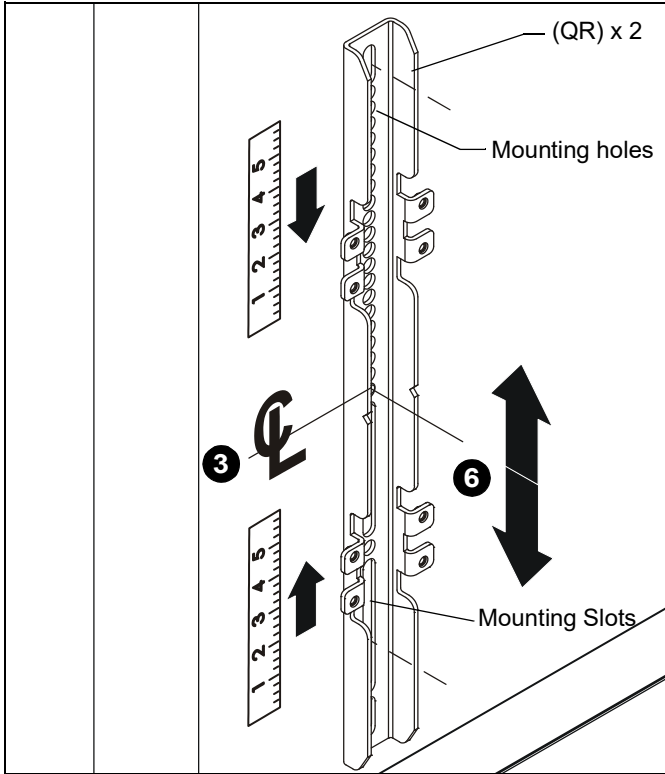
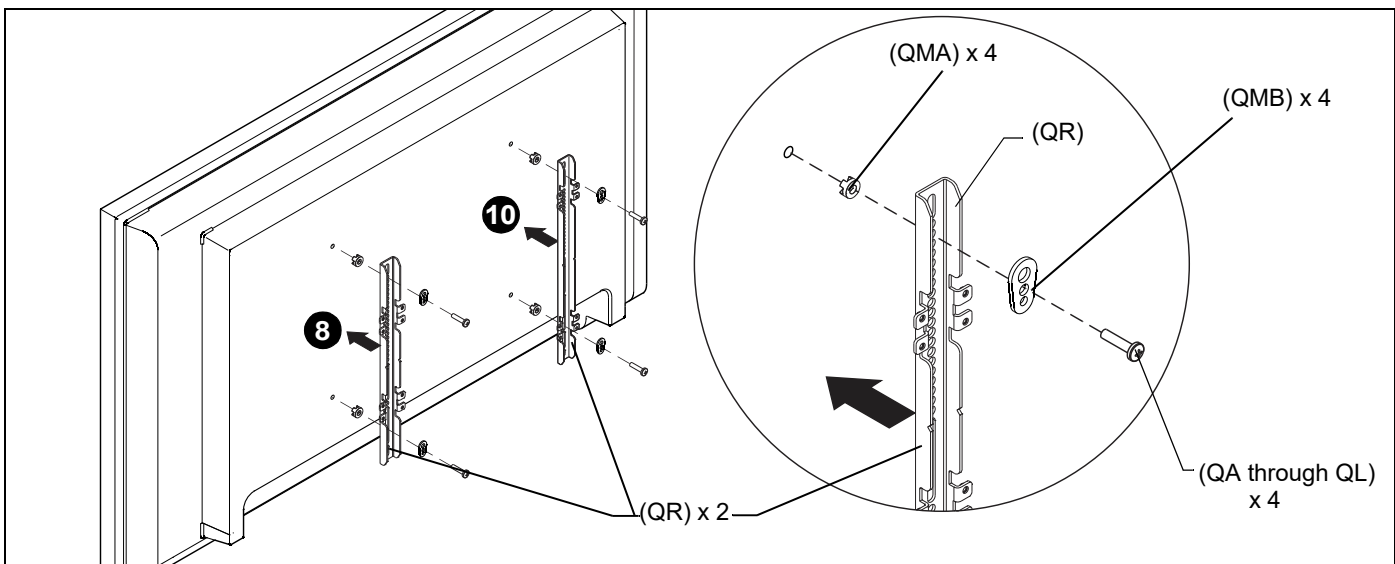

Figure 18
Figure 20
3. Determine and mark the vertical center position between the Left side Upper and Lower mounting holes in display. (See Figure 18)
4. Determine and mark the vertical center position between the Right side Upper and Lower mounting holes in display. (See Figure 18)
5. Orient vertical mounting bracket (QR) so that mounting holes are on top and mounting slots are on bottom. (See Figure 18)
6. Align mounting holes in vertical mounting bracket (QR) with upper and lower mounting holes in display.
7. Adjust vertical mounting bracket (QR) position until mark made in Step 1 aligns with center mark in vertical mounting bracket (QR).
8. Select correct screws, nesting spacers (if necessary) and universal washers (if required) from the hardware bag (QA-QM) and attach brackets to back of screen. (See Figure 20)
9. If the display has a recessed mounting surface, protrusions or a power box, a spacer and longer mounting hardware must be placed between the display and vertical mounting bracket (QR). (See Figure 20)